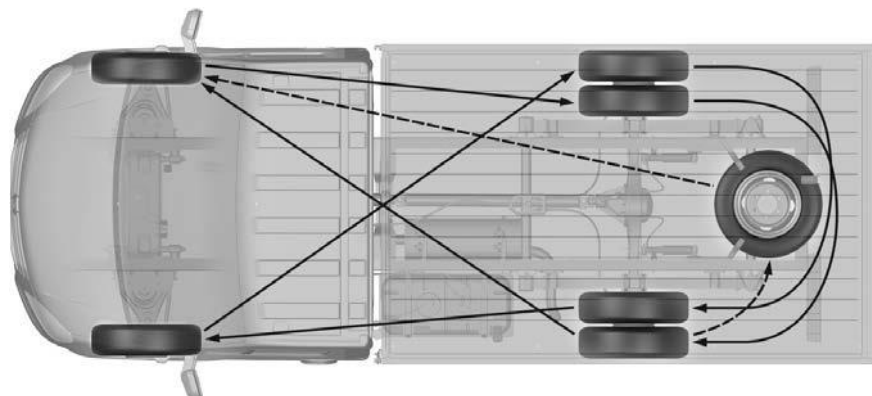

Fig. 4.37. Tire rearrangement scheme
- **tires should be rearranged together with wheels**, if necessary, according to the tire rearrangement scheme (Fig. 4.37). The swap may be caused by the need to obtain uniform wear of all tires, including the spare one, as well as to ensure the correct selection of tires along the axles. Tires with the same tread wear should be installed on one axle, and more reliable tires should be installed on the front axle of the vehicle.